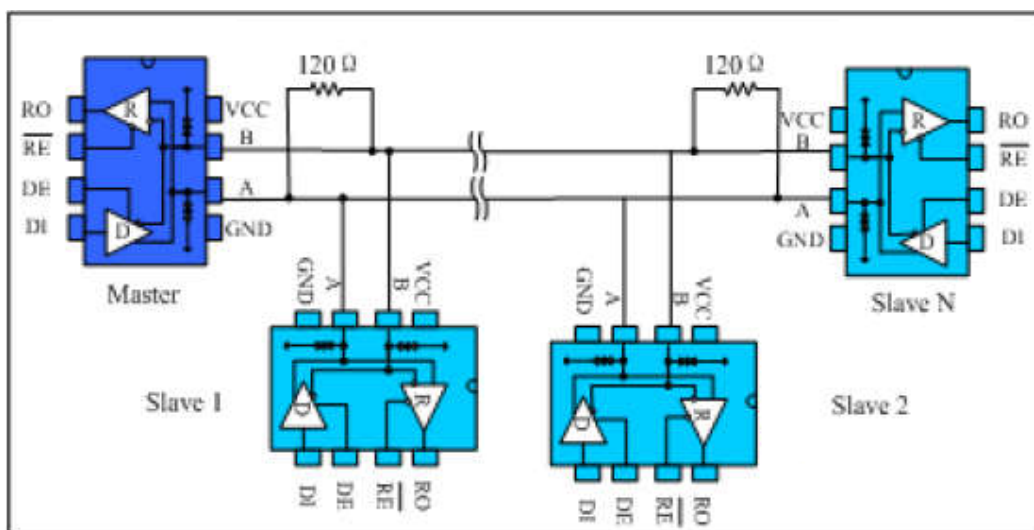

Fig. 9 Bus-type RS485 half-duplex communication network
**4.1 Bus networking:** The SP3485EEN-EV RS485 transceiver is designed for bidirectional data communication on multi-point bus transmission lines. Figure 9 shows a typical network application circuit. These devices can also be used as linear repeaters with cables longer than 4000 feet. In order to reduce reflections, terminal matching should be done at both ends of the transmission line with their characteristic impedance, and the length of the branch wires other than the main line should be as short as possible.